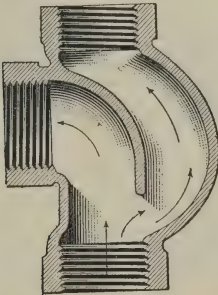

FIG. 20
**31.** Fig. 20 shows the **O S fitting**. It is used to allow the branch to be favored more than the run, as in riser pipes in steam heating, when a better flow is required at the branch to a radiator on one floor than is required to supply the